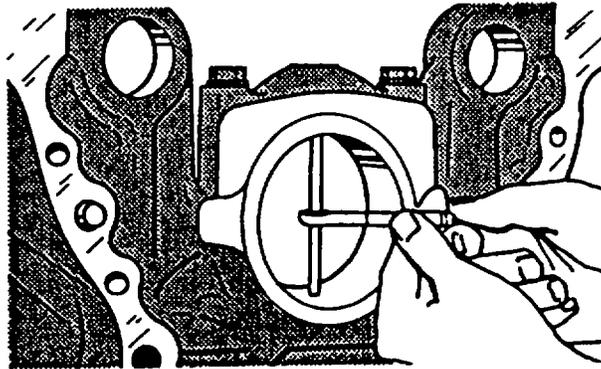

FIGURE 3-157. Measuring Main Bearing Bore bitter
- (1) Measure main bearing bore diameter, refer to FIGURE 3-157. Main bearing bore diameter must be 3.325 to 3.326 inches (84.46 to 84.48 mm).
- (2) Measure engine block main thrust bearing width. Width must be 1.3235 to 1.3275 inches (33.62 to 33.72 mm)
- (3) If bearing caps are damaged, or bore is not within specification, replace cylinder block.